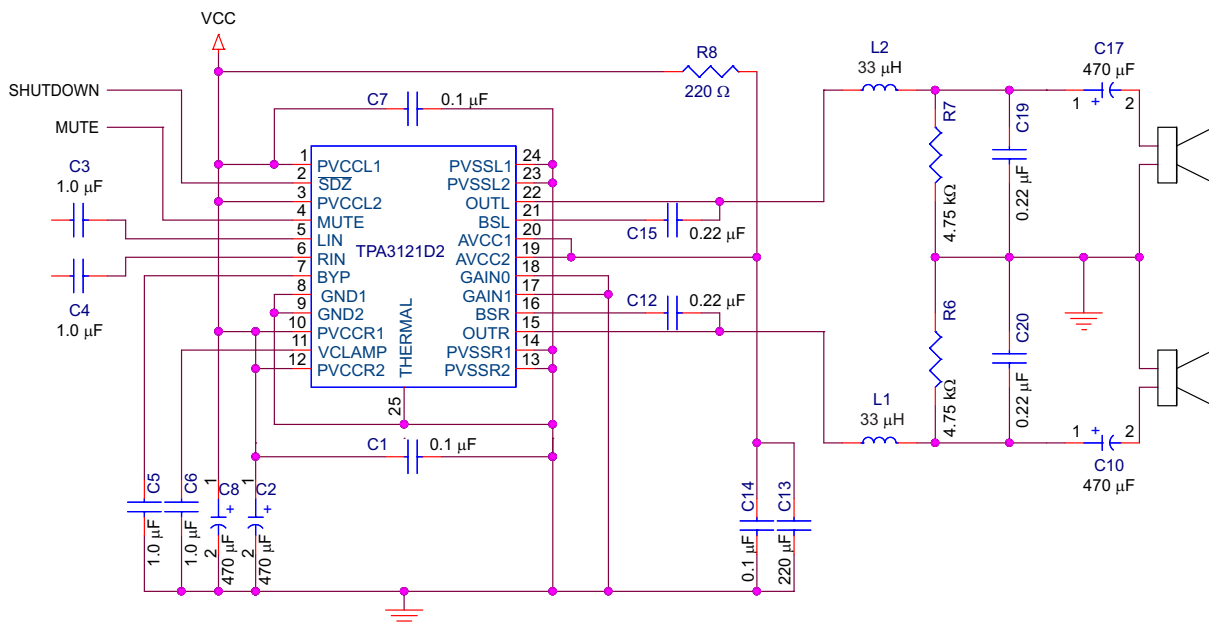

Figure 31. Application Schematic with 220-Ω/220-μF AVCC Filter
- Changed L1 and L2 From: 33 μ F To: 33 μ H in Figure 31 16